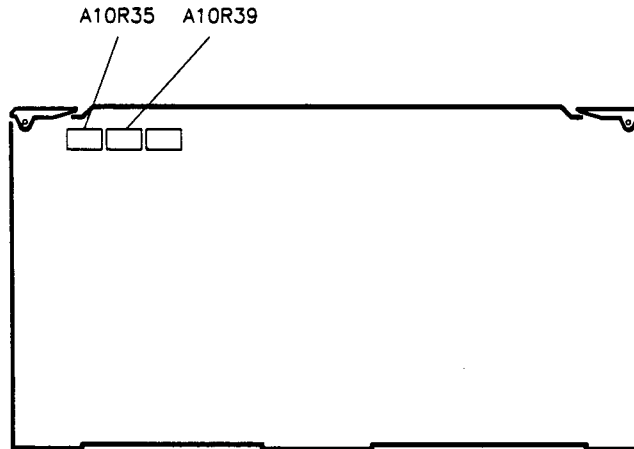

Figure 3-31. A10R35 and A10R39 Locations
15. Adjust A10R35, EXP AM CAL, for a -10 dB power meter reading. See figure 3-31 for the location of A10R35.